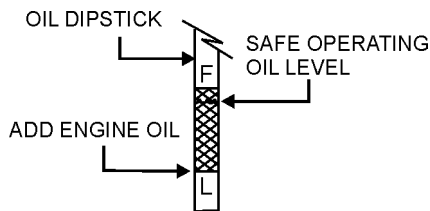

Figure 6. Engine Oil Dipstick
2. Determine if engine oil is low (Figure 6).